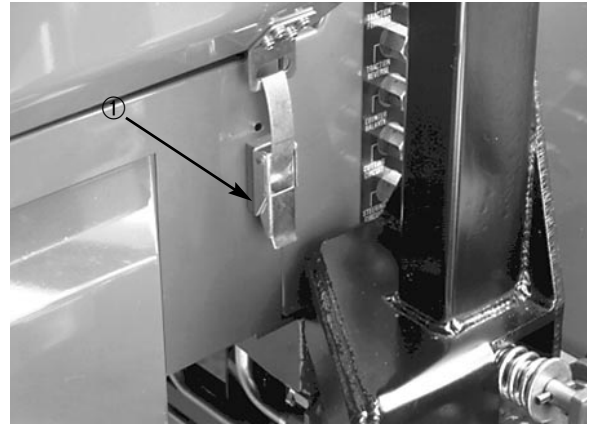

Figure 1
1. Park the machine on a level surface. Release the engine cover latches (Fig. 1).